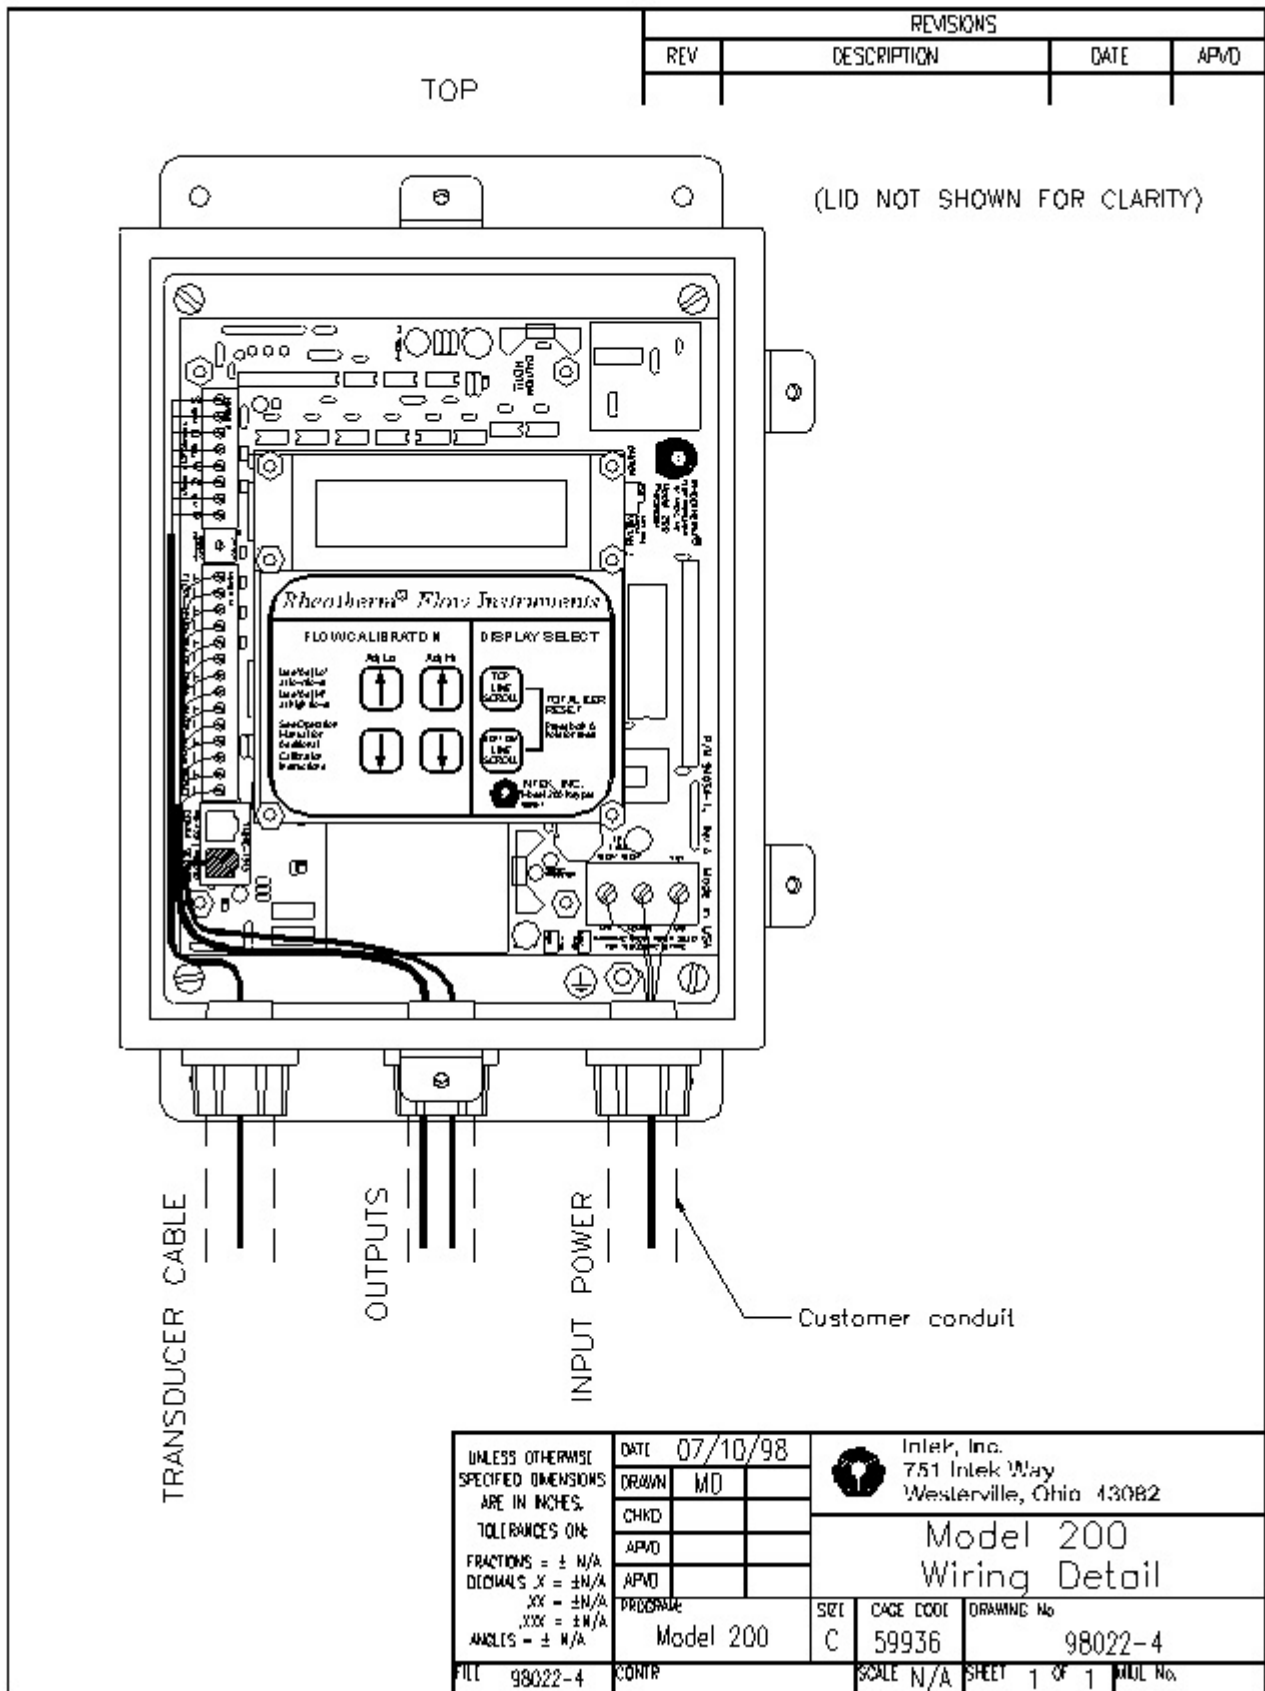

Figure 3. System Wiring Detail
9. Make wiring connections. ***Power should be off at this time.*** Refer to Figure 3 for system wiring detail.